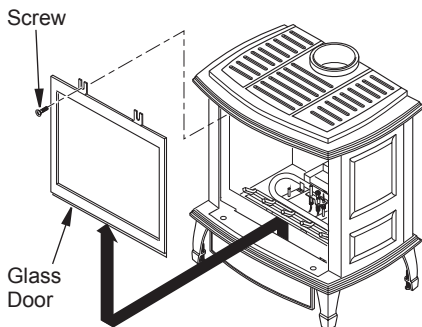

Figure 40 - Removing Glass Door from Burner System
2. Remove the screws from the 2 tabs at the top of the glass door while holding door securely keeping it from falling forward (see Figure 40).
3. Grasp door by both sides and ease it upward off of the lower bracket (see Figure 40).